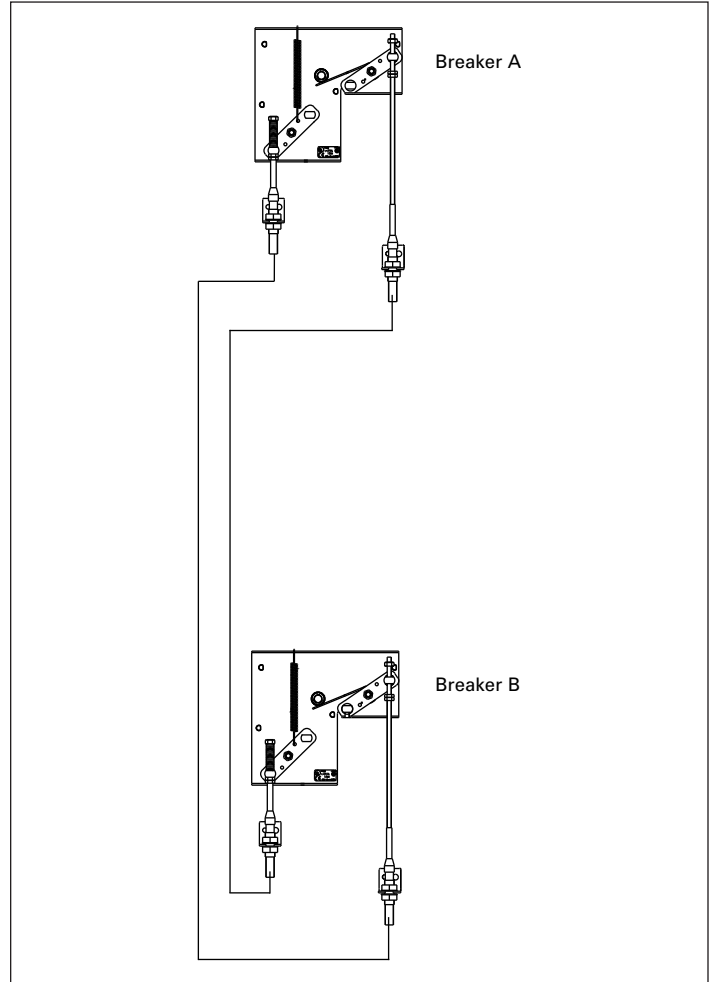

Figure 1. Cable routing for two-way interlock configurations
This information leaflet (IL) provides detailed installation instructions for installing and interconnecting one fixed Type RF frame breaker to another type of low voltage circuit breaker (LVCB) in any position (see A, B in **Table 1**) for a two-way interlock configuration as shown in **Figure 1**. When purchasing kits for a two-way interlock configuration setup, additional interlock kits (the types of interlock kits and the other breakers on which they can be installed that are compatible with this kit are listed in **Table 2**) are required for the other breaker as well as the interconnecting cable kits (one required).